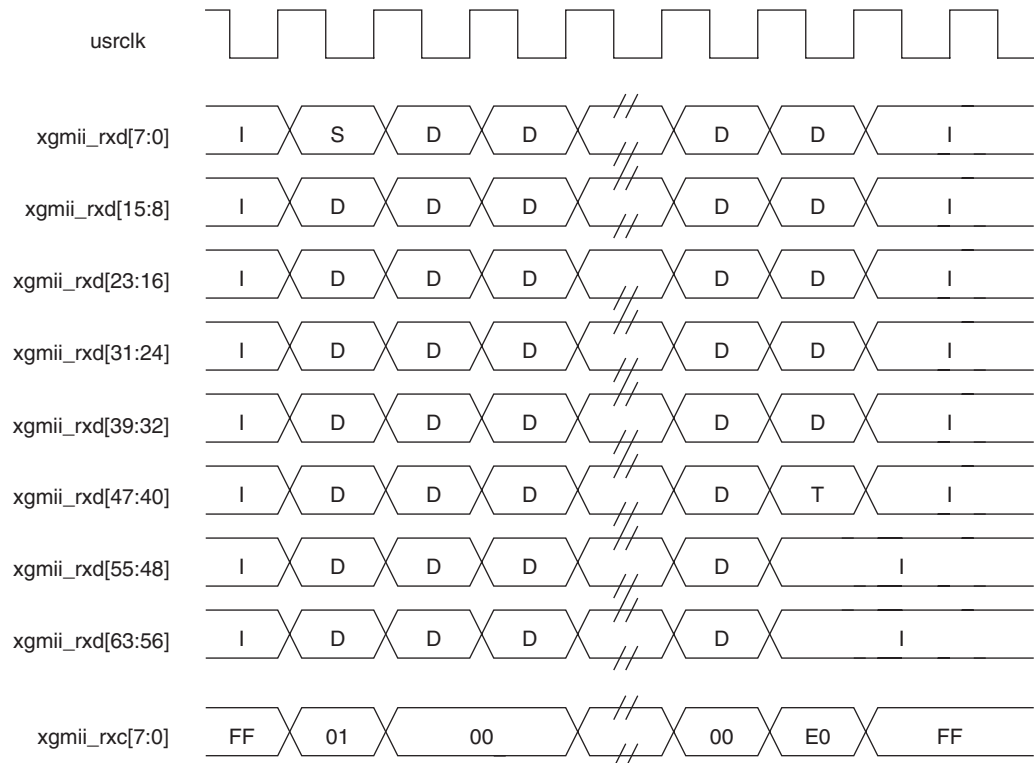

Figure 6-11: Frame Reception Across the Internal 64-bit Client Interface
The timing of a normal inbound frame transfer is shown in Figure 6-11. As in the transmit case, the frame is delimited by a Start character (S) and by a Terminate character (T). Note